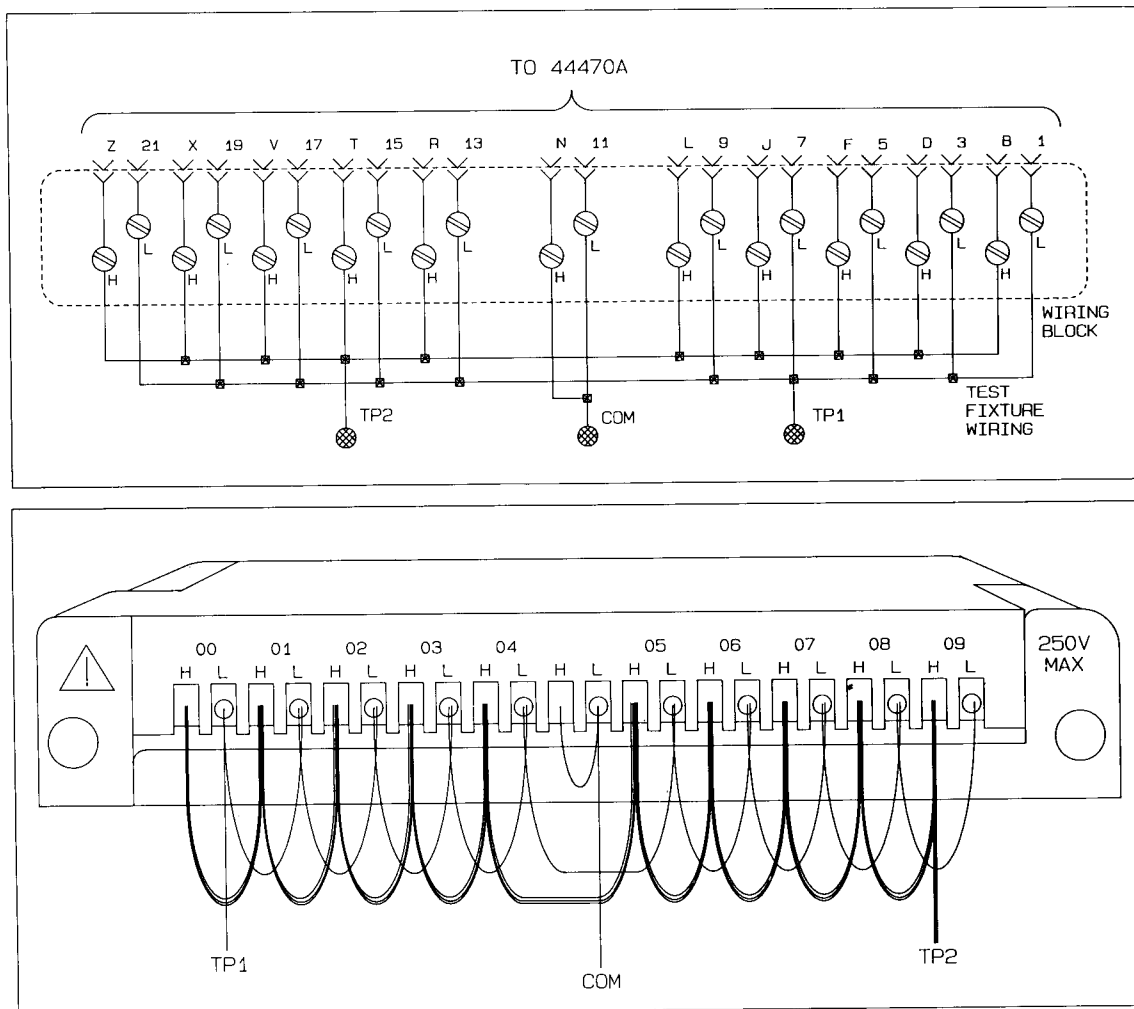

Figure 8-3 44470 Test Fixture
a. A test fixture is available from Hewlett-Packard (HP part number 03488-66501). The advantages of this fixture are (1) it requires no assembly and (2) it can be used to test the 44470A, the 44471A, the 44473A and the 44474A plug-in cards without modification.
b. A test fixture can be constructed by configuring an HP 44480A removable wiring block as shown in Figure 8-3. This particular test fixture can only be used to test the 44470A.